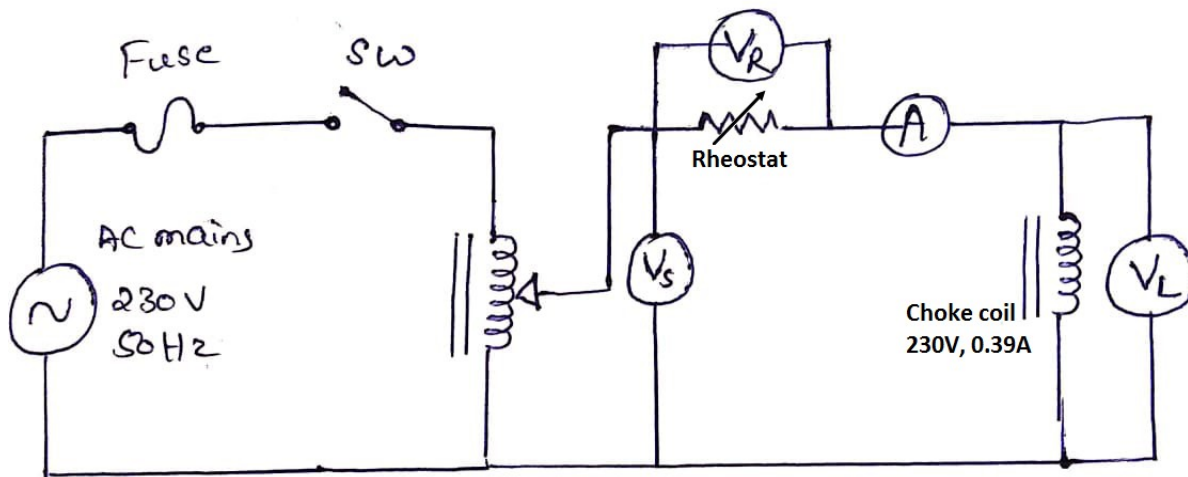

Fig 3.1
- Make the connections as per the circuit shown in figure 3.1